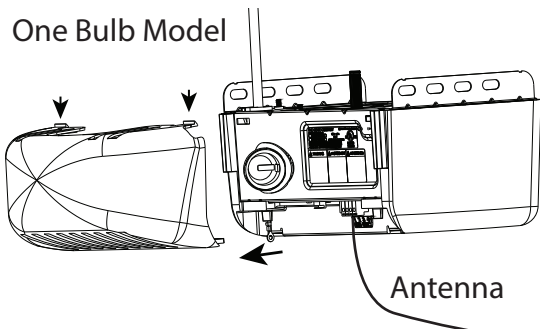

FIG. 3.
5. Remove wall control and Safe-T-Beam® wires from terminal block located on side of two bulb models or rear of one bulb models FIG. 3. Use small common screwdriver to press in on orange tabs while gently pulling wires from block. Mark wires to help facilitate replacement.